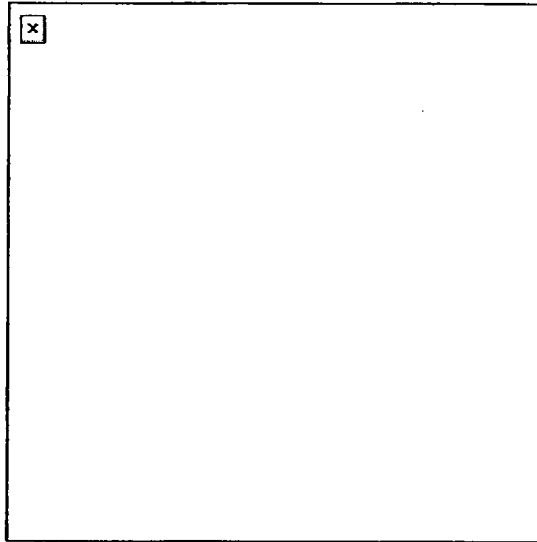

Figure 5. Attachment of clamps to HMMWV armament pedestal carrier.
3. Attach the T&E assembly (A, Figure 5).
- (1) Assemble the middle clamp around the base of the pedestal, about 2 inches below the welded pin (B, Figure 5). Tighten the clamp by turning the train lock clockwise. Using a 9/16-inch wrench, tighten the screw on other side of clamp the same amount that you tightened the first screw.
- (2) Attach two support clamps. Using two 9/16 wrenches, attach one support clamp above and one below the already installed middle clamp. Tighten each screw two turns until snug.